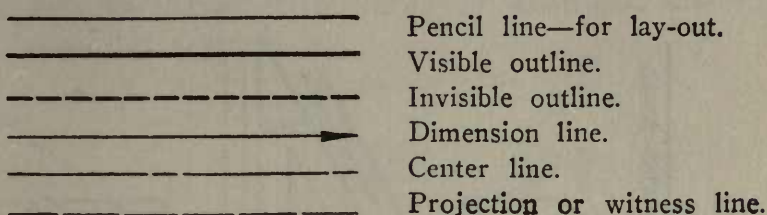

Fig. 11.
12. Note the conventional lines shown in Fig. 11.